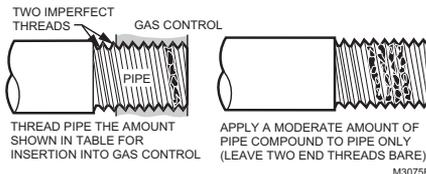

Fig. 4. Use moderate amount of pipe compound.
4. Apply a moderate amount of good quality pipe compound (do not use Teflon® tape) to the pipe, leaving two end threads bare. On LP installations, use a compound resistant to LP gas. See Fig. 4.